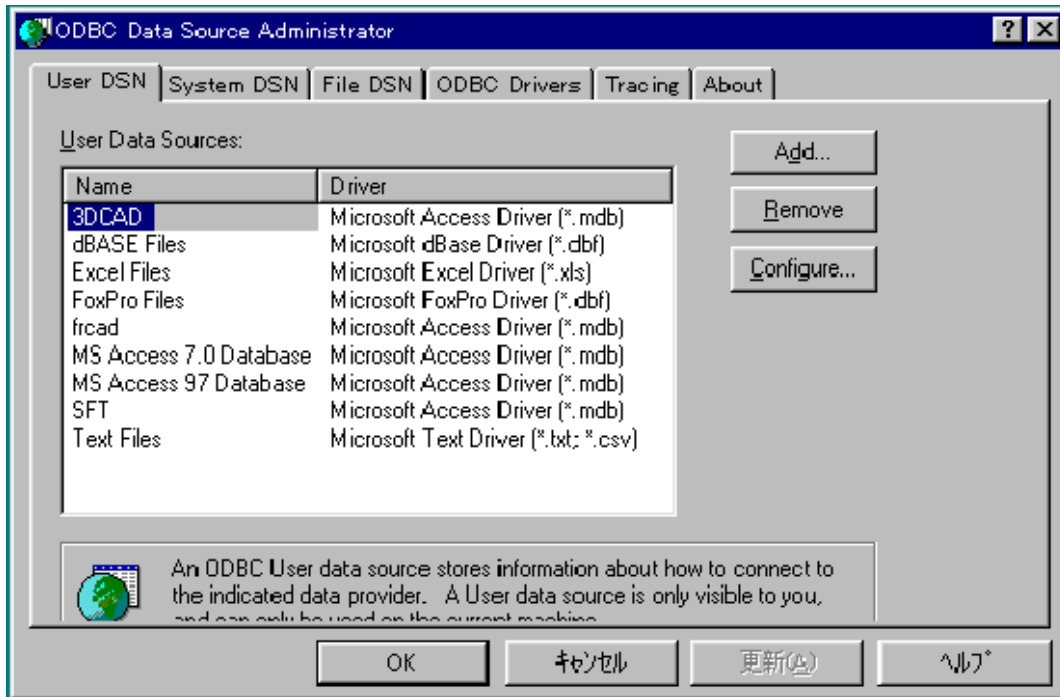

Figure 6-6. Data Sources “frcad” addition
- Upon completion of step 1 to 5; the display will return to the first display with an additional “frcad” added in the User Data Sources as shown on Figure 6-6. User should confirm that FRCAD exists on the list. Click on OK then exit Control Panel.